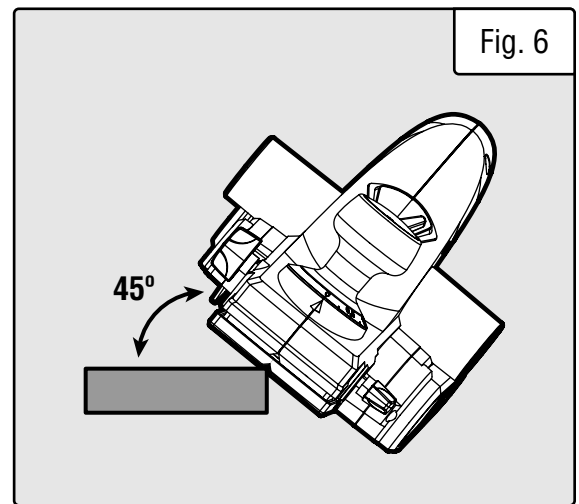

Fig. 6
2. Hold the planer firmly with both hands. Align the V-groove in the front shoe of the planer with the corner edge of the workpiece (Fig. 6). Be sure the blades are not touching the work. Place weight on the depth adjustment knob so that the V-groove is absolutely flat on the edge to be beveled.